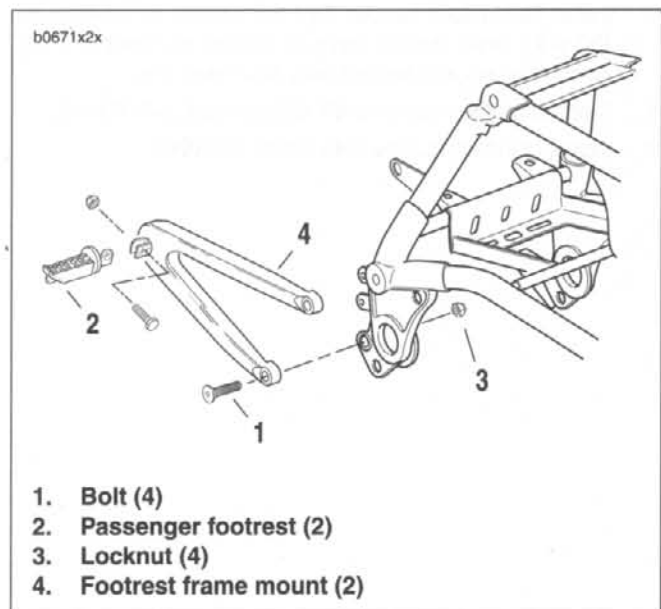

Figure 2-147. Footrest Frame Mount—Exploded View
1. See Figure 2-147. Remove two bolts (1) and locknuts (3) securing footrest frame mount (4) to frame.
2. If necessary, detach passenger footrests (2) by removing bolt and nut.
- a. See Figure 2-147. Apply LOCTITE THREADLOCKER 243 (blue) to footrest bolts (2).
2. Align footrest frame mount (4) with frame mounting holes.
- a. Apply LOCTITE THREADLOCKER 272 (red) to mounting bolts (1).
- b. Secure mounts with bolts (1) and locknuts (3). Tighten to 13-16 ft-lbs (17.6 -21.7 Nm).